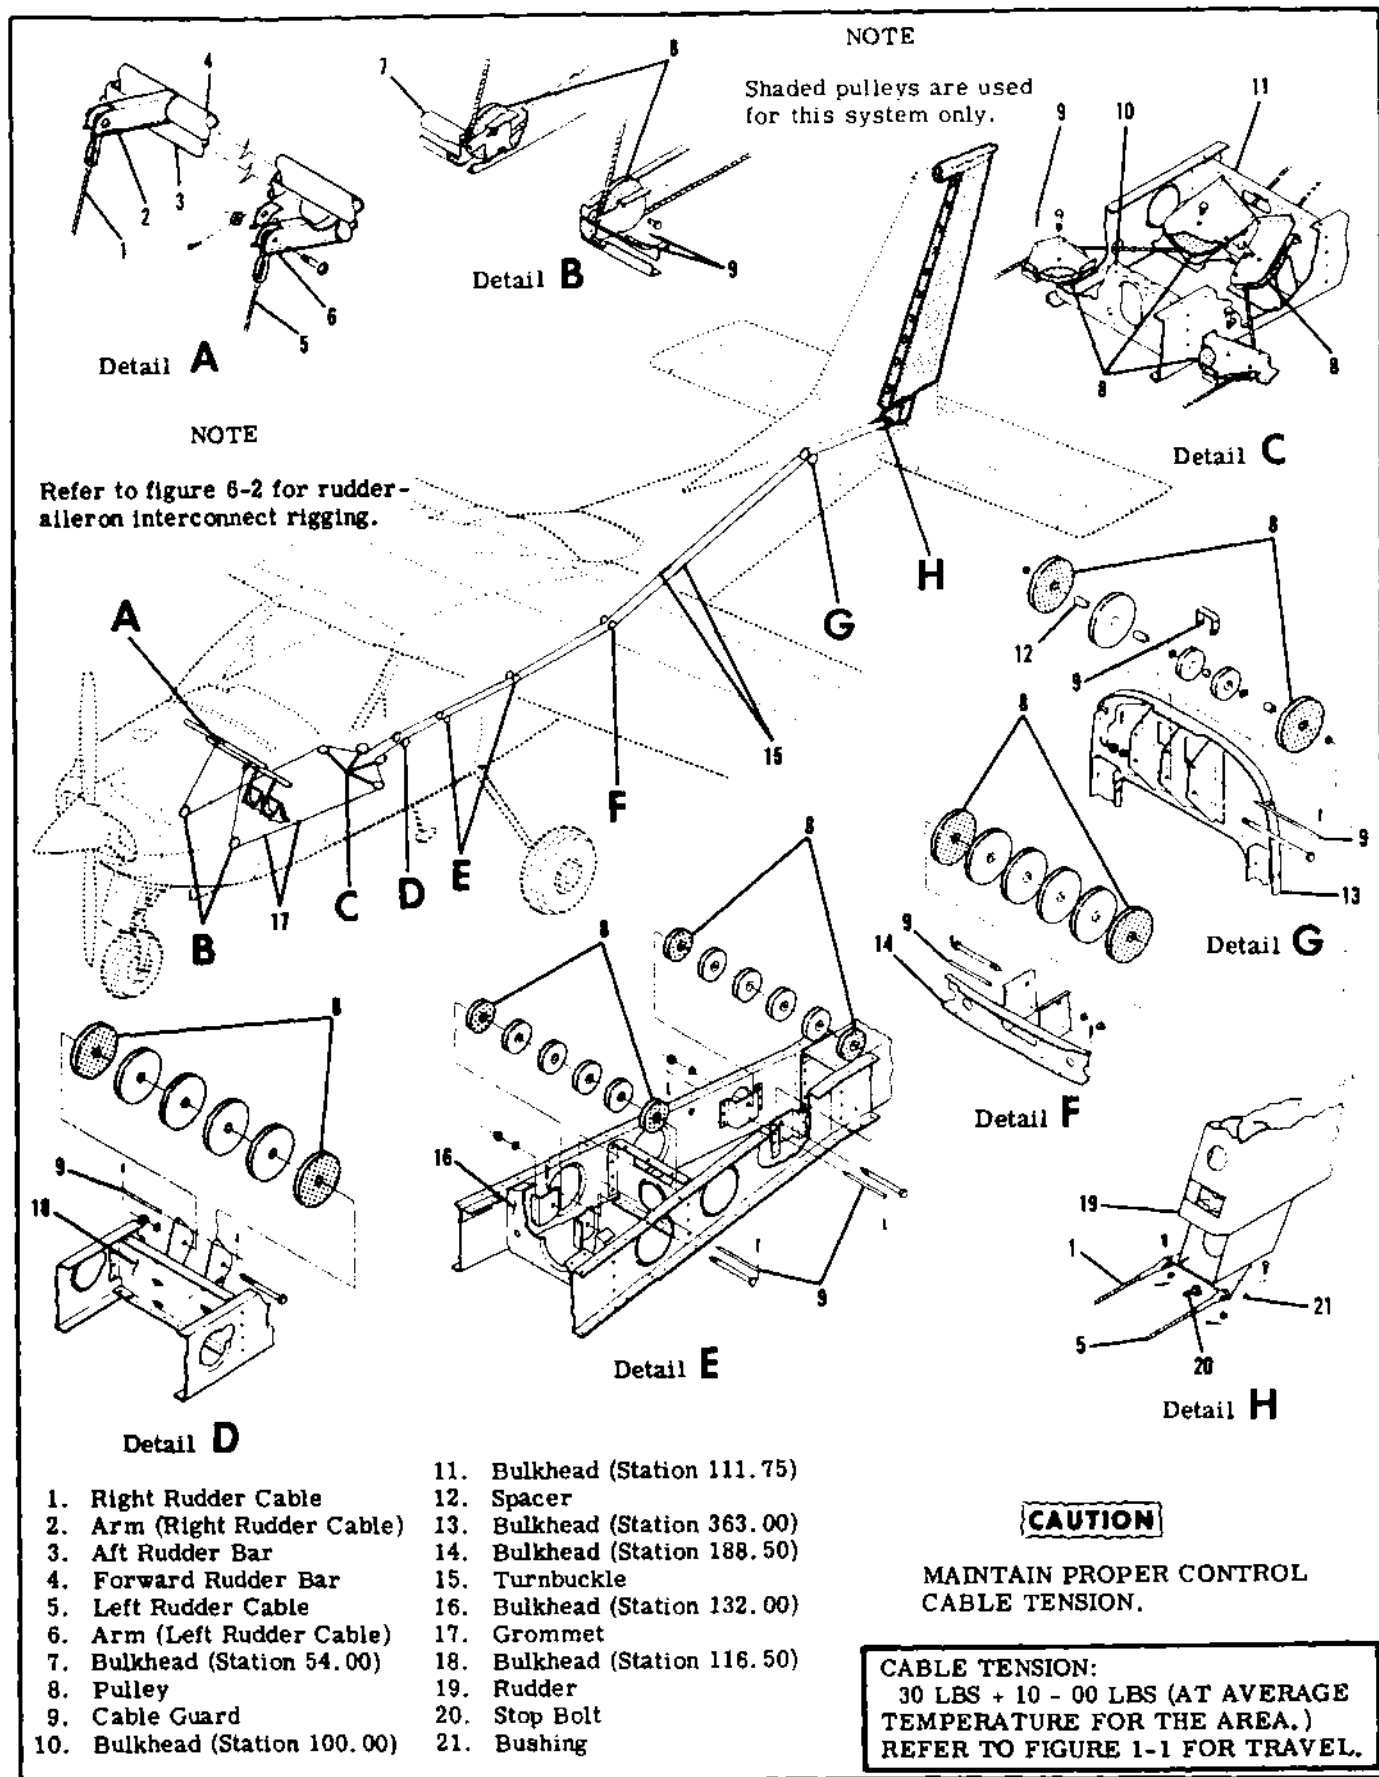

Figure 10-1. Rudder Control System
- 10-1. **RUDDER CONTROL SYSTEM.** (Refer to figure 10-1.) prised of the rudder pedals installation, cables and pulleys, all of which link the pedals to the rudder and nose wheel steering.
- Disconnect master cylinder clevis rods (11) from lever assemblies (10).
- Disconnect all brake links (19) from rudder bars.
- Disconnect and remove the pilot rudder pedals (13).
- Disconnect and remove the copilot pedal support assemblies (20).
- Relieve rudder cable tension at turnbuckles (index 15, figure 10-1).
- Disconnect tail navigation light quick-disconnect (10).
- Relieve cable tension at turnbuckles (index 15, figure 10-1).
- Disconnect cables from rudder horn assembly (9).
10-9. CABLES AND PULLEYS. (Refer to figure 10-1.)
10-11. RIGGING. (Refer to figure 10-1.)